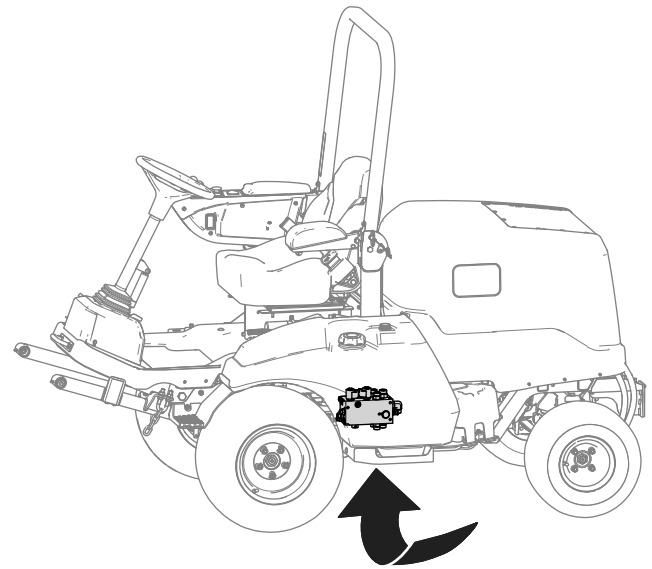

Figure 20
- Locate the lift manifold from under the machine (Figure 20).